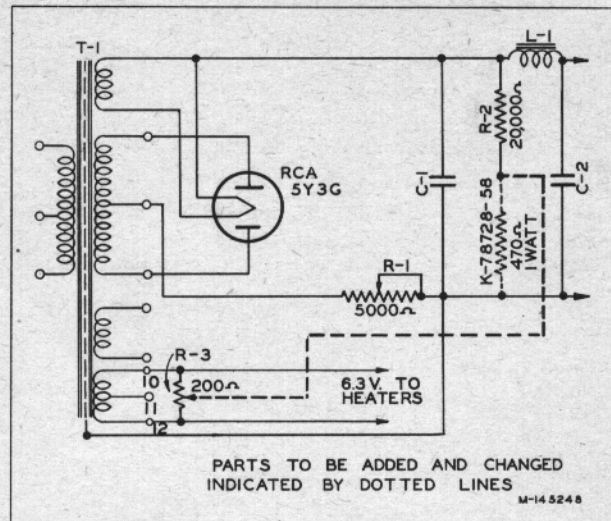

Figure 11—Alterations in MI-11302 and MI-11302-A Power Supply.
24. When the Type BX-1A Power Supply is not available, the MI-11302 or the MI-11302-A Power Supplies can, with a slight wiring change, be used as an alternate. Figure 11 illustrates the alterations required. Connect a 470-ohm, 1-watt resistor between resistor R-2 and ground. Remove the wire connecting the arm of potentiometer R-3 to ground. Run a wire from the arm of R-3 to the junction of the new resistor and R-2. Refer to figure 11.